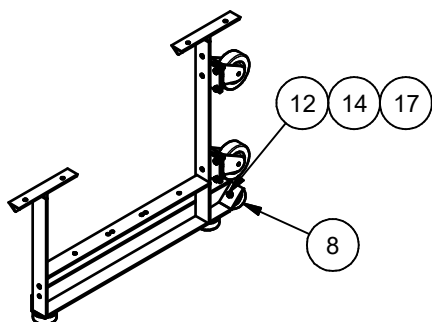
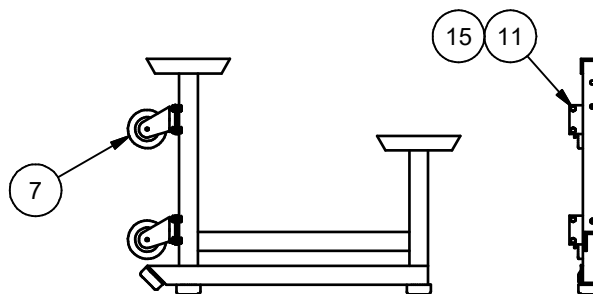

Figure 2
Figure 3
2. Pre-assemble the frames with the rubber pads and caster assemblies. Install a rubber foot at each hole location under the seat vertical and the angled position at the rear of the frame. Use the 5/16" x 1-1/4" hex bolt, 5/16" flat washer between the head of the bolt and the rubber pad, and a 5/16 nylon lock nut (see figure 2). Attach two caster assemblies to each frame (see figure 3). Use the 5/16" x 1" hex bolts and 5/16" whizlock nuts. Four bolts and nuts are required for each caster assembly.